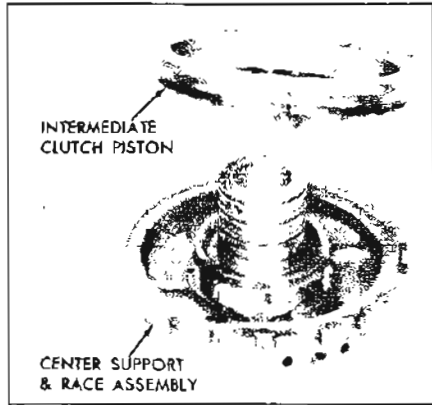

Figure 5-650
4. Remove the intermediate clutch piston. See Figure 5-650.